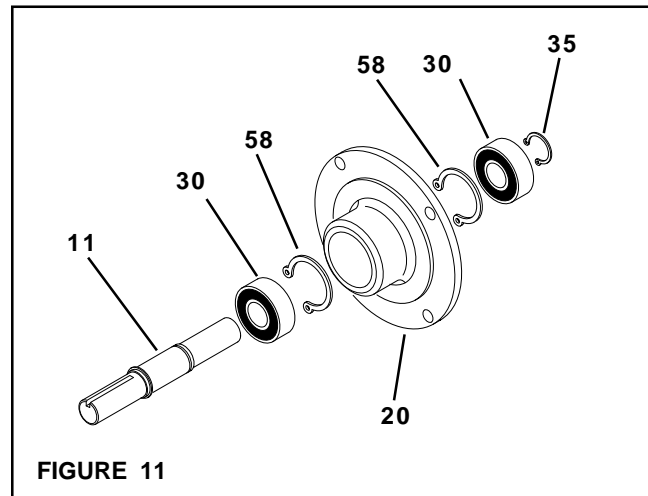

FIGURE 11
2. Remove the Retaining Ring (Item 35) from the output end of the Input Unit (See Figure 11).
3. Fully supporting the Flange (Item 20), press the Shaft (Item 11) out of the Input Unit (See Figure 11).
One Bearing (Item 30) will come out of the Flange (Item 20) with the Shaft (Item 11) (See Figure 11).
4. Press the old Bearing (Item 30) out of the Flange (Item 20) (See Figure 11).
5. Press the old Bearing (Item 30) off the Shaft (Item 11) (See Figure 11).
7. Press one new Bearing (Item 30) onto the Shaft (Item 11) until it is seated against the retaining ring on the Shaft (See Figure 11).
8. Apply an adequate amount of Loctite® 680 to evenly coat the outer race of the second new Bearing (Item 30) (See Figure 11).
9. Carefully align the outer race of this new bearing with the bore of the Flange (Item 20) and press this Bearing into the output end of the Flange until it is seated against the retaining ring inside the Flange (See Figure 11).
10. Apply an adequate amount of Loctite® 680 to evenly coat the outer race of the new Bearing (Item 30) previously pressed onto the Shaft (Item 11) (See Figure 11).
11. Support the inner race of the new Bearing (Item 30) inside the Flange (Item 20); then, pressing on the inner and outer race of the Bearing (Item 20) on the Shaft (Item 11), press the new Bearing and Shaft into the Flange and Bearing until they are seated against the Retaining Ring (Item 58) (See Figure 11).
12. Reinstall the Retaining Ring (Item 35) (See Figure 11).